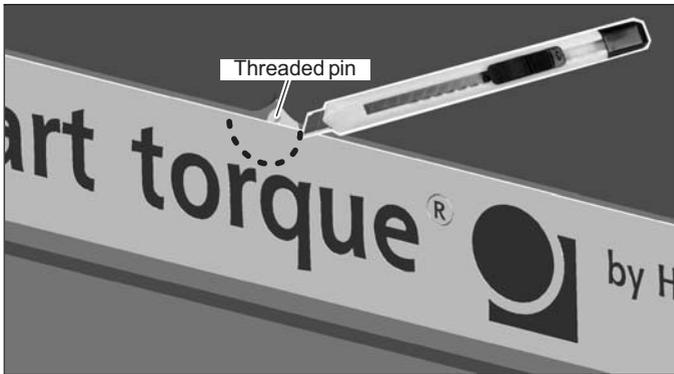

Fig. 8.5 Cut out the film
2. For 500 N·m to 3 kN·m measurement ranges and retrospective protection against contact orders only: some of the tapped holes for the locking screws are covered by attached film. Make a semicircular cutout in the film here, at least 6 mm in radius (e.g. with a cutter, see Fig. 8.5). Now remove the threaded pins from the tapped holes on both sides of the stator.